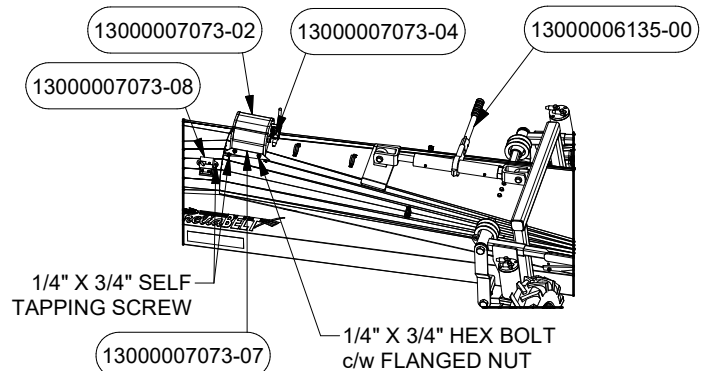

FIGURE 8
16. Attach the Jack PN# 6135 to the SW Body and Mover Axle. Attach the Bracket PN# 7073-07 and the Fuse PN# 7073-08 to the SW Body using Self Tapping Screws. Attach the Wireless Receiver PN# 7073-02 using Hex Bolts c/w Flanged Nut. Attach the Insulators PN# 7073-04 to the Wireless Receiver as shown in Figure 8.